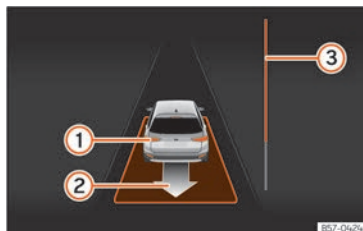

Fig. 201 On the instrument panel display: exit a parallel parking space.
The progress bar »» Fig. 201 ③ indicates the distance to cover »» page 279.